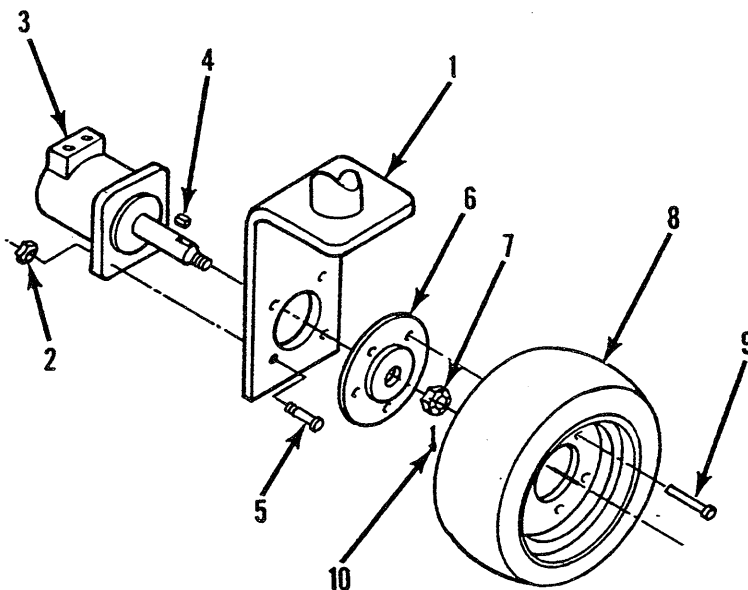

Figure 5-10. Drive Motor Removal
a. Removal (Figure 5-10).
(1) Park the work platform on firm level ground then block the wheels to prevent the work platform from rolling.
(2) Loosen the wheel lug bolts on the front corner to be raised.
(3) Use a 1.5 ton capacity jack to raise the desired front corner.
(1) Refer to Figure 5-10 and position the drive motor on the yoke and secure with capscrews and locknuts.
(2) Remove the plugs from the hose assemblies and connect to the drive motor.
(3) Install the shaft key, hub and locknut. Torque the locknut to 350 to 400 ft. lb. Install the cotter pin.
(4) Install the wheel with capscrews onto the hub. Torque to 40 ft. lb.
(5) Lower the jack and remove. Operate the drive system and check for leaks.